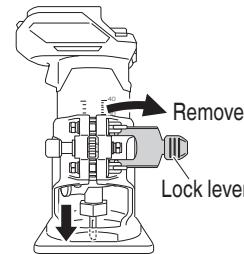

Fig. 14
- (1) Place the tool on a flat wood surface.
- (2) Tilt the lock lever towards the remove side, and turn knob bolt (A) to lower the unit until the tip of the bit lightly touches the material. In this position, the scale on the upper end can be read. (Fig. 14)
- (3) Turn knob bolt (A) upwards to adjust the scale to the desired cutting depth according in accordance with the position read.